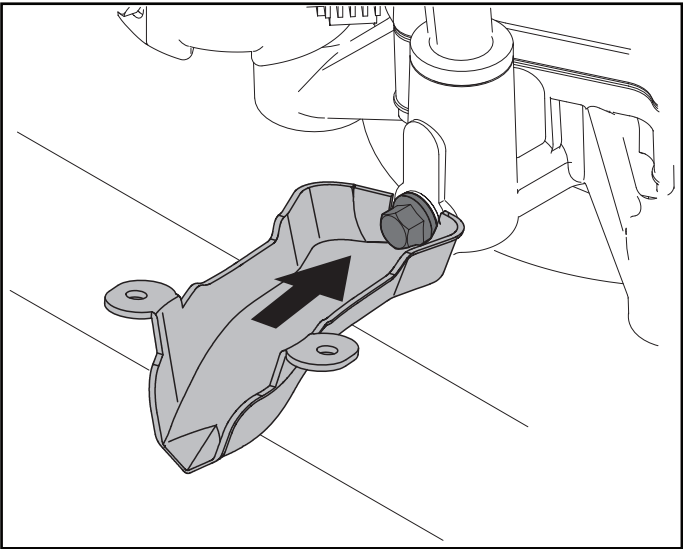

Fig. 36B
4. Place a collection container below the oil drain sleeve.(Fig. 36B)